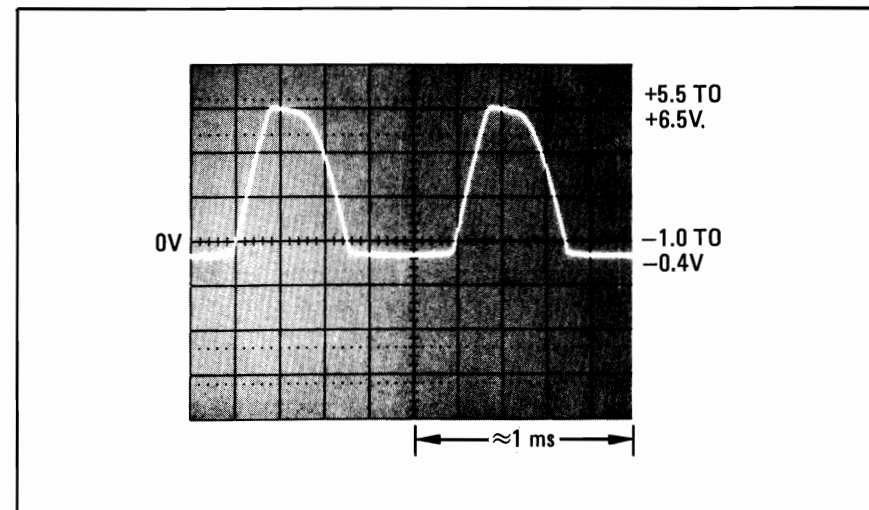

Figure 8-77. Oscillator Leveling Check Waveform A
3. Connect the oscilloscope to pin 2 of U9. The waveform should be as shown in Figure 8-77.